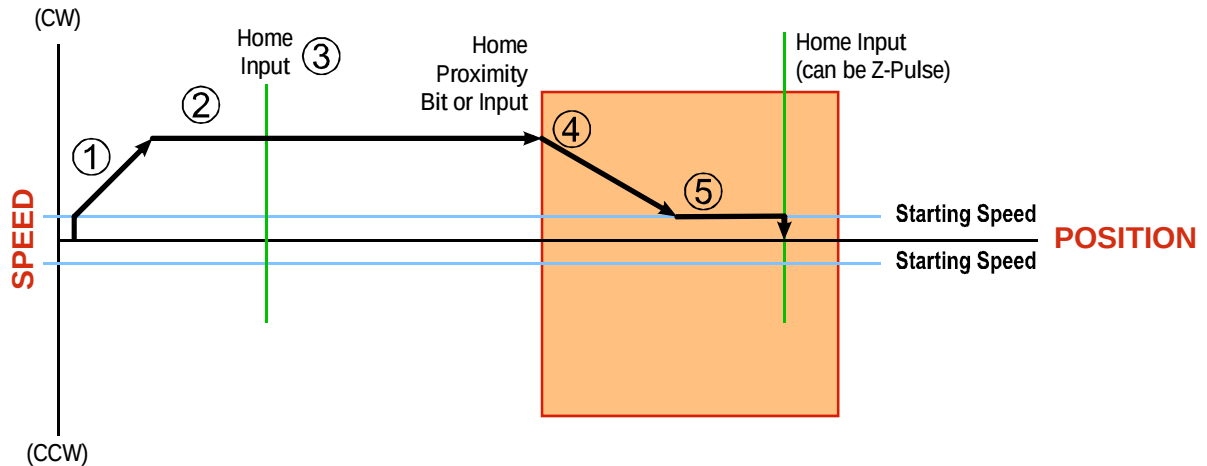

Figure 3.2 Homing with Proximity
Figure 3.2 below shows the move profile generated by a +Find Home command when you use:
NOTE  Figure 3.2 shows the Backplane Home Proximity Bit staying active until the ANG1(E) reaches its home position. This is valid, but does not have to occur. As stated in step 4, the ANG1(E) starts to hunt for the home position as soon and the Backplane Home Proximity Bit makes a 0→1 transition